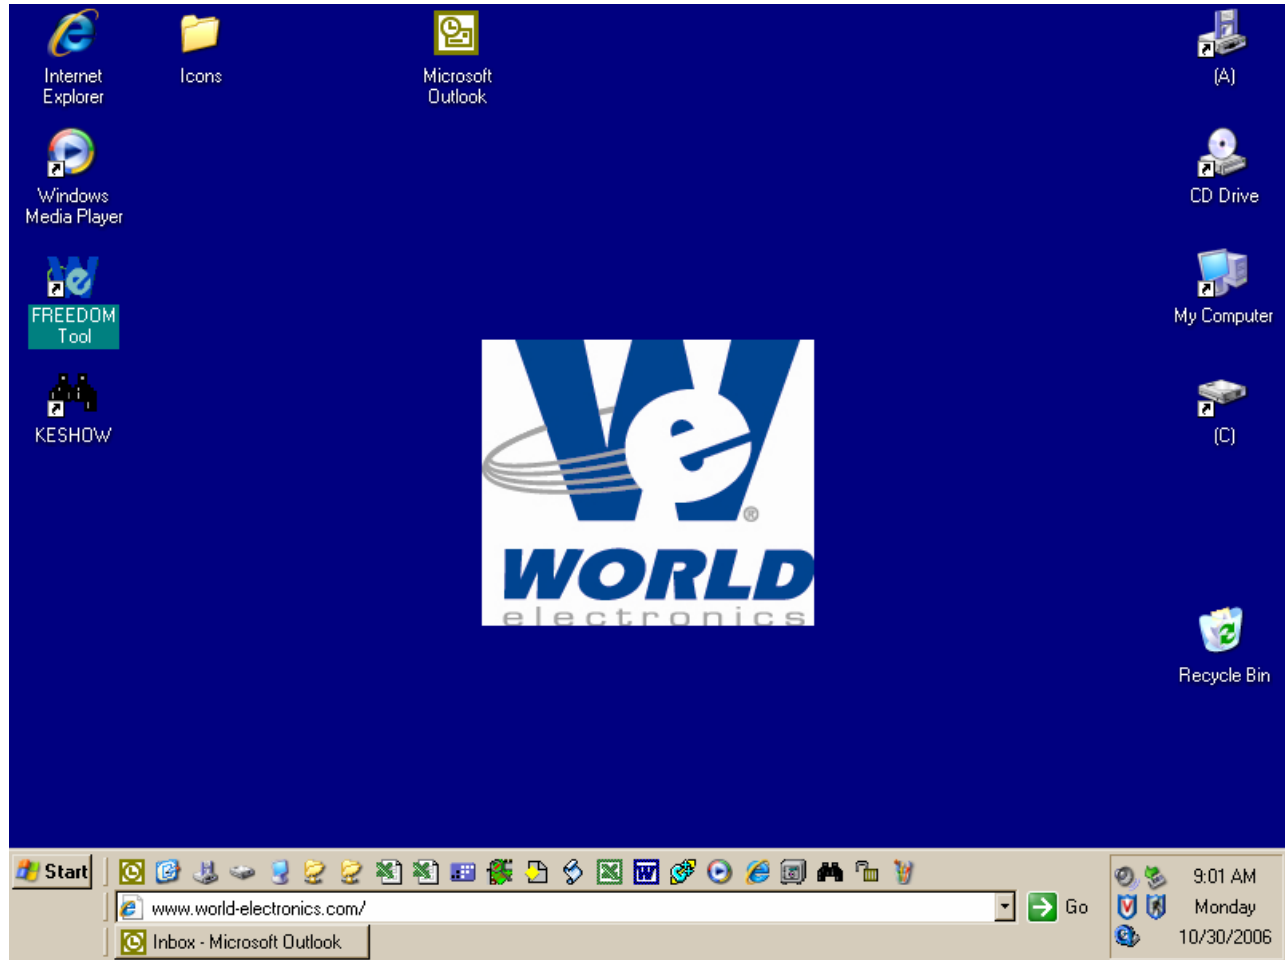

Figure 29
2. From the Microsoft Windows Desktop Screen select the **FREEDOM Tool** Icon by using the pointing device to position the cursor directly over the **FREEDOM Tool** Icon and double clicking the pointing device button. Refer to Figure 29.